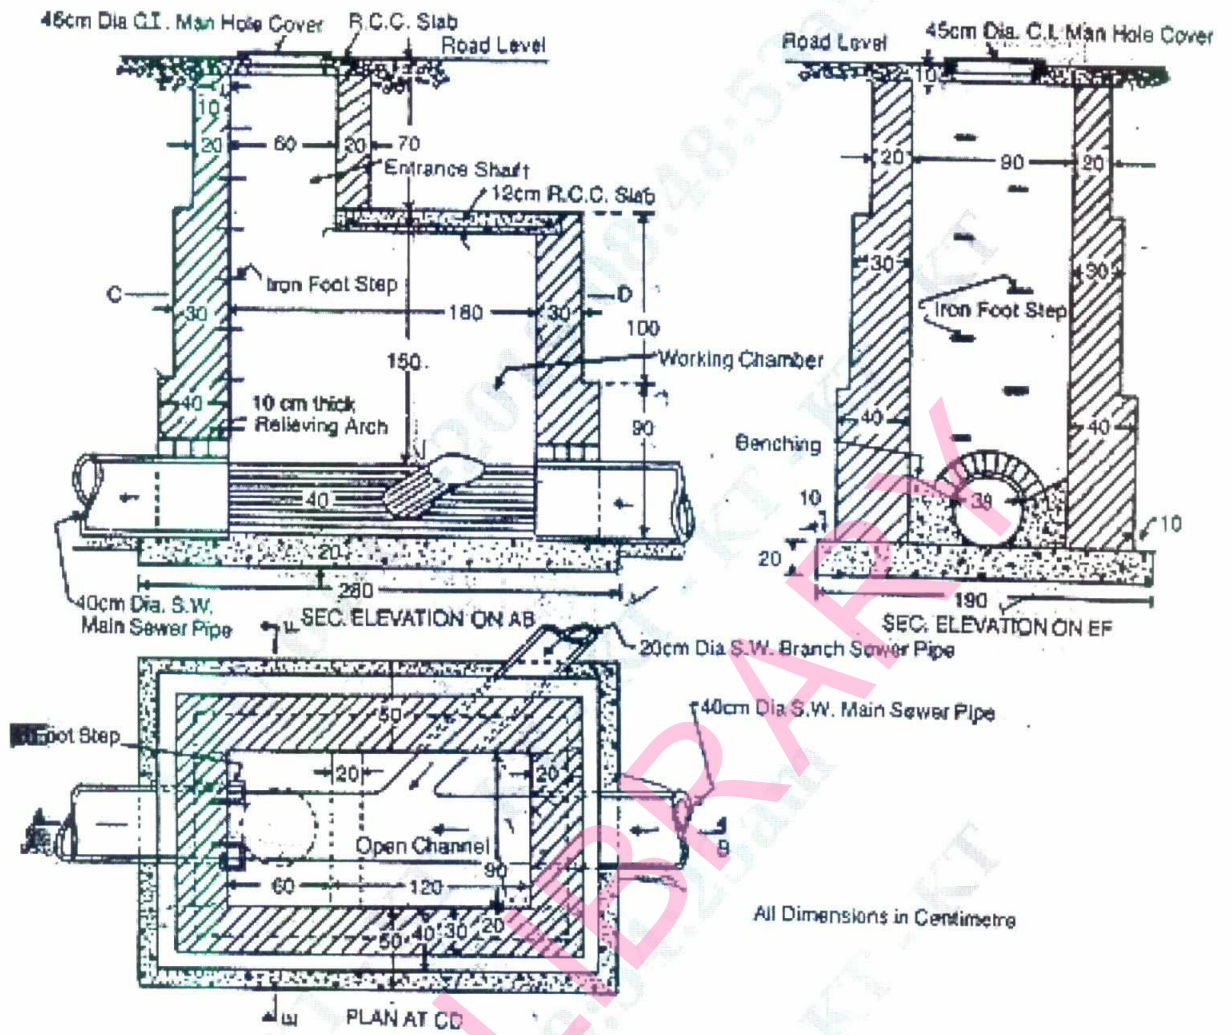

Fig.Q2
- 2 Prepare a detailed estimate of a manhole from the given drawing Fig.Q2(Refer page no.3), work out the quantities and cost of the following terms of work.